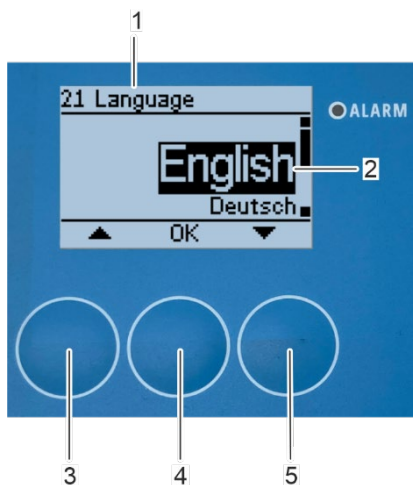

Fig. 125: Set language
⇒ The "21 Language" submenu appears on the display (Fig. 125/1)
3. Select the preferred language (Fig. 125/2) with the arrow keys *[up]* (Fig. 125/3) and *[down]* (Fig. 125/5).
4. Confirm the selection with *[OK]* (Fig. 125/4).